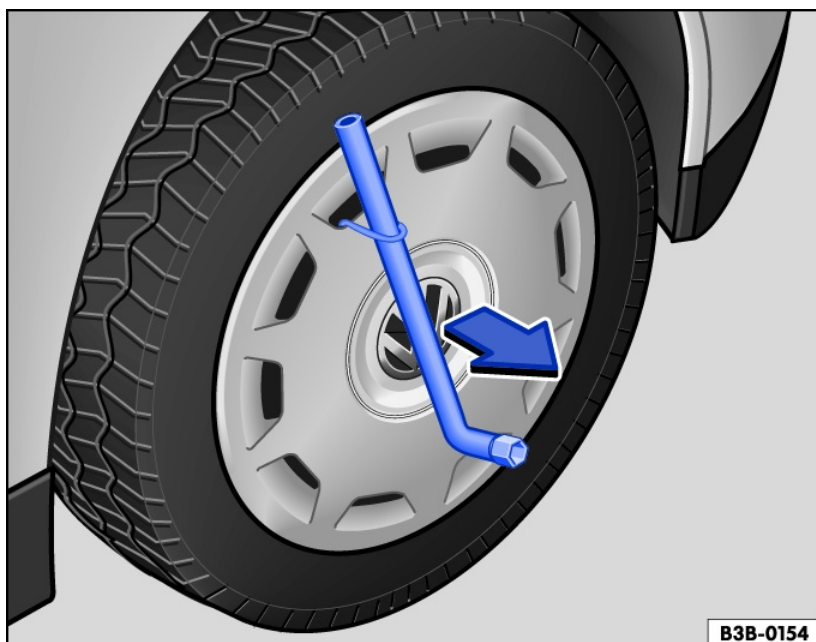

Fig. 167 Remove the full wheel cover.
- Remove the wheel hub cover with extraction hook in the direction of the arrow. If necessary, use a lug wrench for removal *fig. 167*.